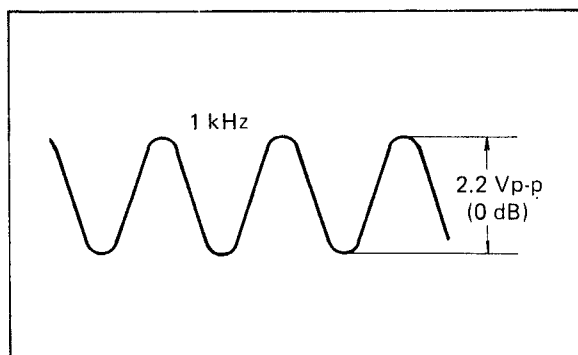

Fig. 6-39 Playback level
3. Adjust R146 (P.B. LEVEL) so that the level of TP-15 is 2.2 V p-p (0 dB) as shown in Fig. 6-39.